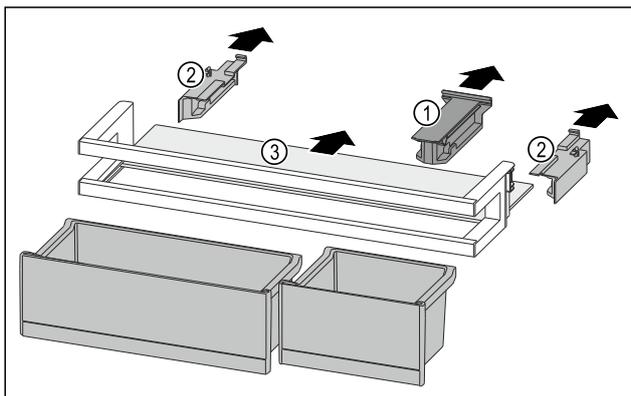

Fig. 94
- ▶ Pull off the holding part Fig. 94 (1).
- ▶ Pull off the side parts Fig. 94 (2).
- ▶ Remove the shelf Fig. 94 (3).